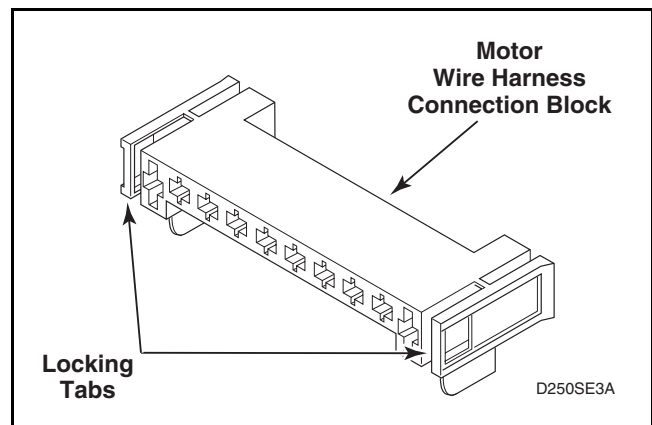

Figure 46
- h. Disengage motor wire harness terminal block from motor switch by pressing in on the movable locking tabs (located on each end of the terminal block) and pulling away from motor. Refer to *Figures 46 and 47*.
- (1) Disengage motor wire harness terminal block from the motor by pressing in on the movable locking tabs (located on each side of the terminal block) and pulling away from motor. Refer to *Figure 46*.